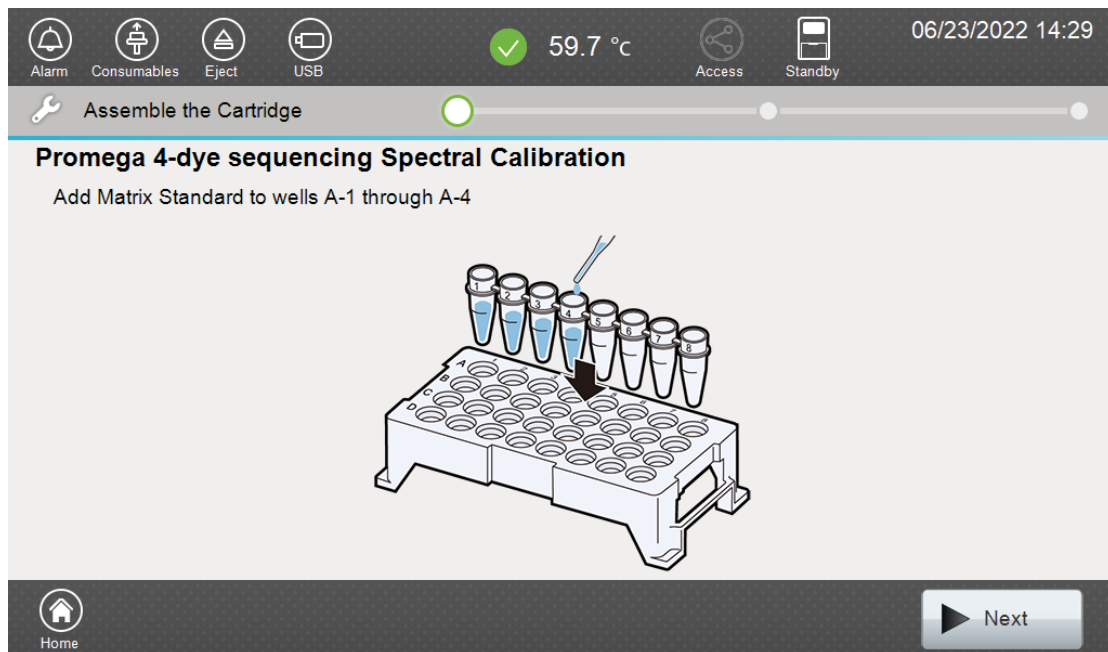

Figure 7. 'Assemble the Cartridge' screen.
- Use the scroll arrows on the right side of the ‘Dye Set List’ screen (Figure 6) to find the correct Dye Set/Application Type/Polymer combination from the displayed list. To perform a spectral calibration using the ProDye™ 4C Matrix Standard on Polymer7, select **Promega 4-dye Sequencing** with “Sequencing” and “Polymer7” as application and polymer types, respectively, then select **Calibration**. The ‘Assemble the Cartridge’ screen will open (Figure 7).
5. Select **Next** on the 'Assemble the Cartridge' screen (Figure 7). A message window will open, indicating that the autosampler is moving and telling the user to not open the door. In addition, the status indicator flashes green while the autosampler is moving. After autosampler movement is complete, the message window closes and the status indicator returns to a steady green.